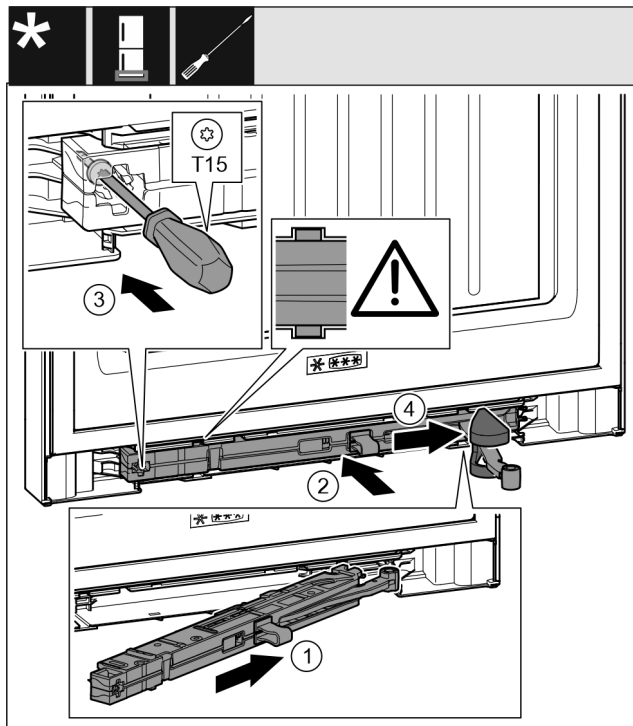

Fig. 68
- On the swap bearing block side, slide the closing damper unit Fig. 68 (1) into the recess at an angle up to the stop.
- Push the closing damper unit Fig. 68 (2) into the recess completely.
- Use a screwdriver to tighten the screw Fig. 68 (3).
- Push the cover Fig. 68 (4) over the joint.